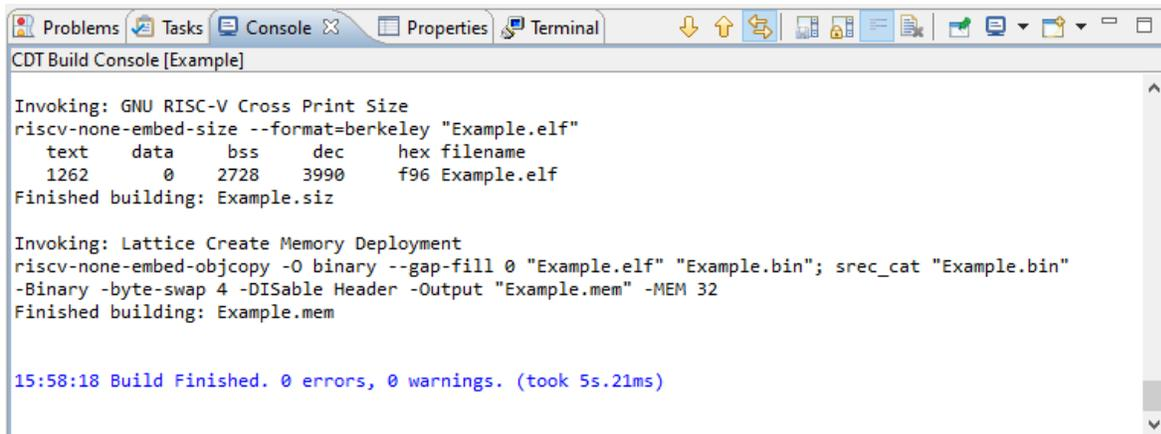

Figure 3.22. Build Result of C/C++ Project
4. The results of the build command are displayed in the **Console** view (Figure 3.22).